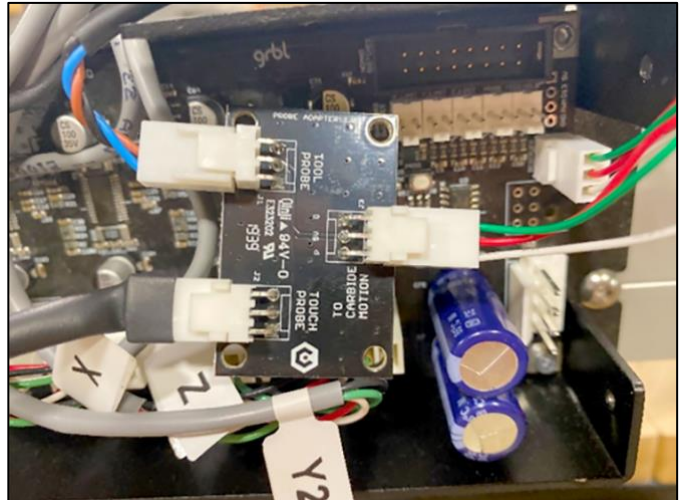

Figure 13
- b. If you have both the BitSetter and a Touch Probe, use the Probe Adapter PCB as shown in **Figure 13**.